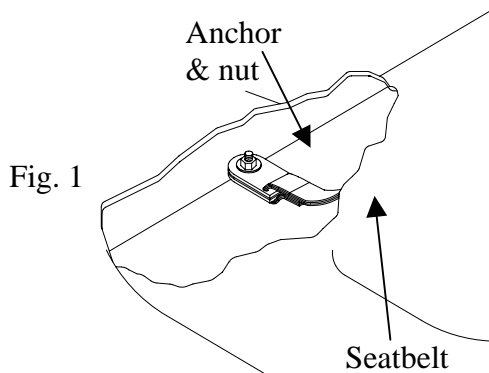

Fig. 2
- B. **If installing a Pro-Cell divider, attach the (3P214) Divider Mounting Brackets as shown in Fig. 2, before installing the seat in the vehicle.**